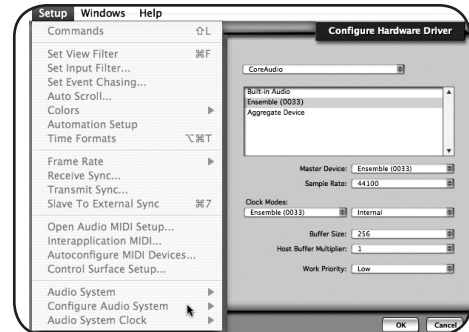

figure 28
1. In Digital Performer, open **Setup > Configure Audio System > Configure Hardware Driver.** (figure 28)